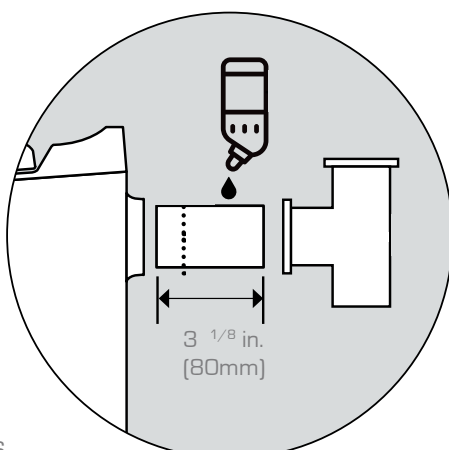

Fig. 6
2. Lubricate the end with dishwashing detergent or a similar substance [fig. 6].